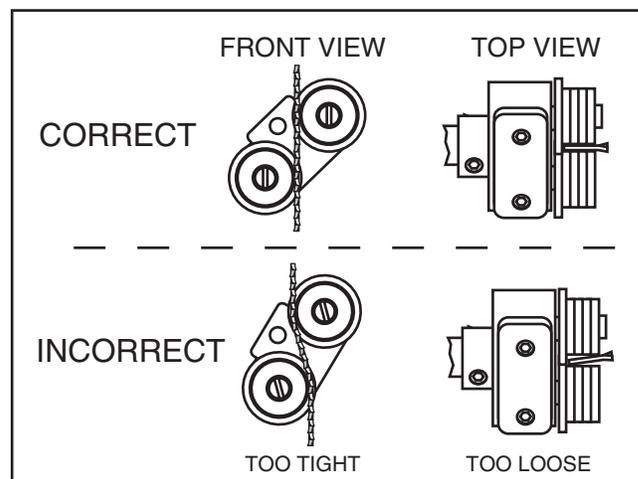

Figure 36. Blade guide wheel position.
5. Adjust the blade guides by turning the slotted eccentric spindles as necessary so the blade is held flat between the blade guide wheels but not so tight that the blade must bend between them (**Figure 36**). Make sure the blade remains square to the table.